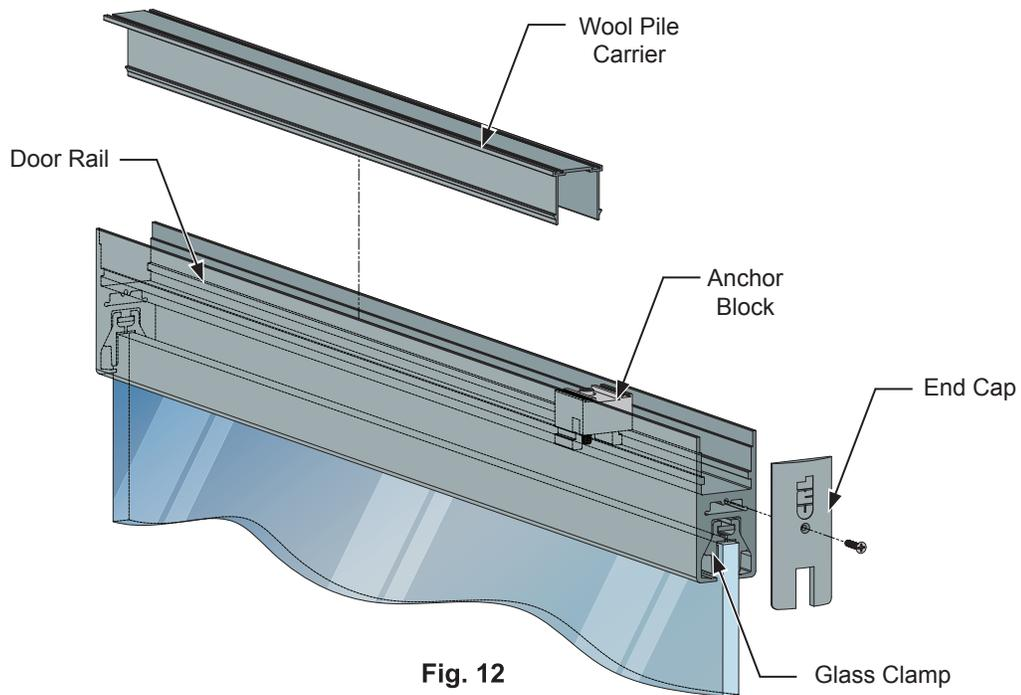

Fig. 12
1. Remove both End Caps from the rail. (Fig. 12)
2. Remove the wool pile carrier from the rail. (Fig. 12)